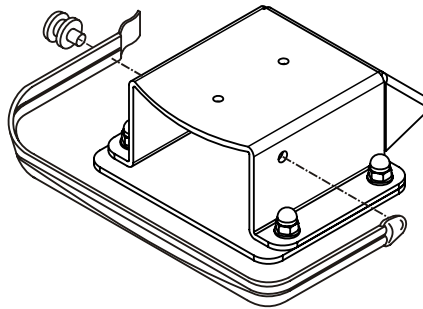

Figure 13 Thermohydrograph Securing Strap
36. Remove Bunji Securing Strap (Loop) (Figure 13):